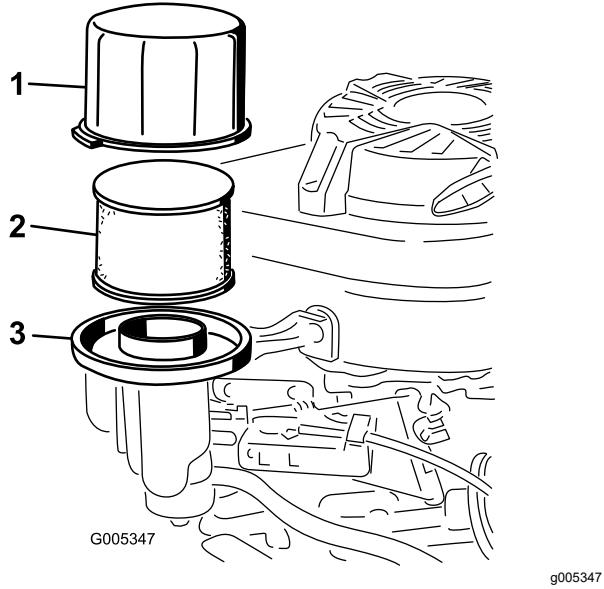

Figure 23
3. Remove the cover and clean it thoroughly (Figure 23).
4. Remove and the foam pre-filter and the paper-air filter from the air-filter base (Figure 23).